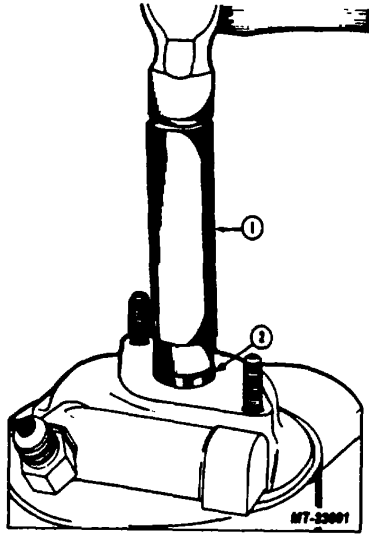

Fig. 11 Installing Shaft Seal
5. Install new seal using Seal Installer SE-2840, Figure 11. Seal should be bottomed in seal bore but be careful not to crush seal cage.